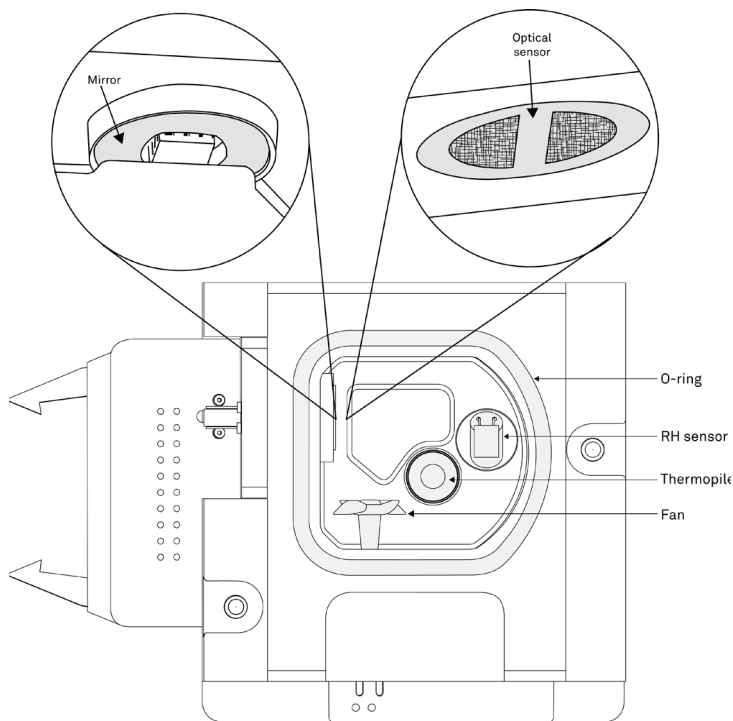

Figure 99 View of inside of removed sensor block
10. Turn the sensor block over so the sensor chamber area is visible, and clean the sensors and sensor block (Figure 99).